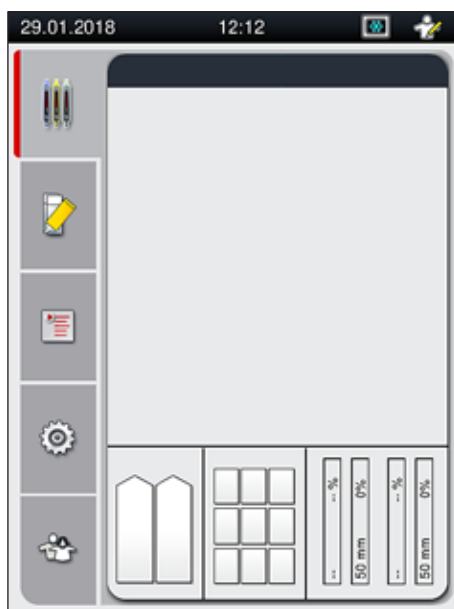

Fig. 12
7. After completing the initialization phase, the **Main menu** (→ Fig. 12) appears on the screen.